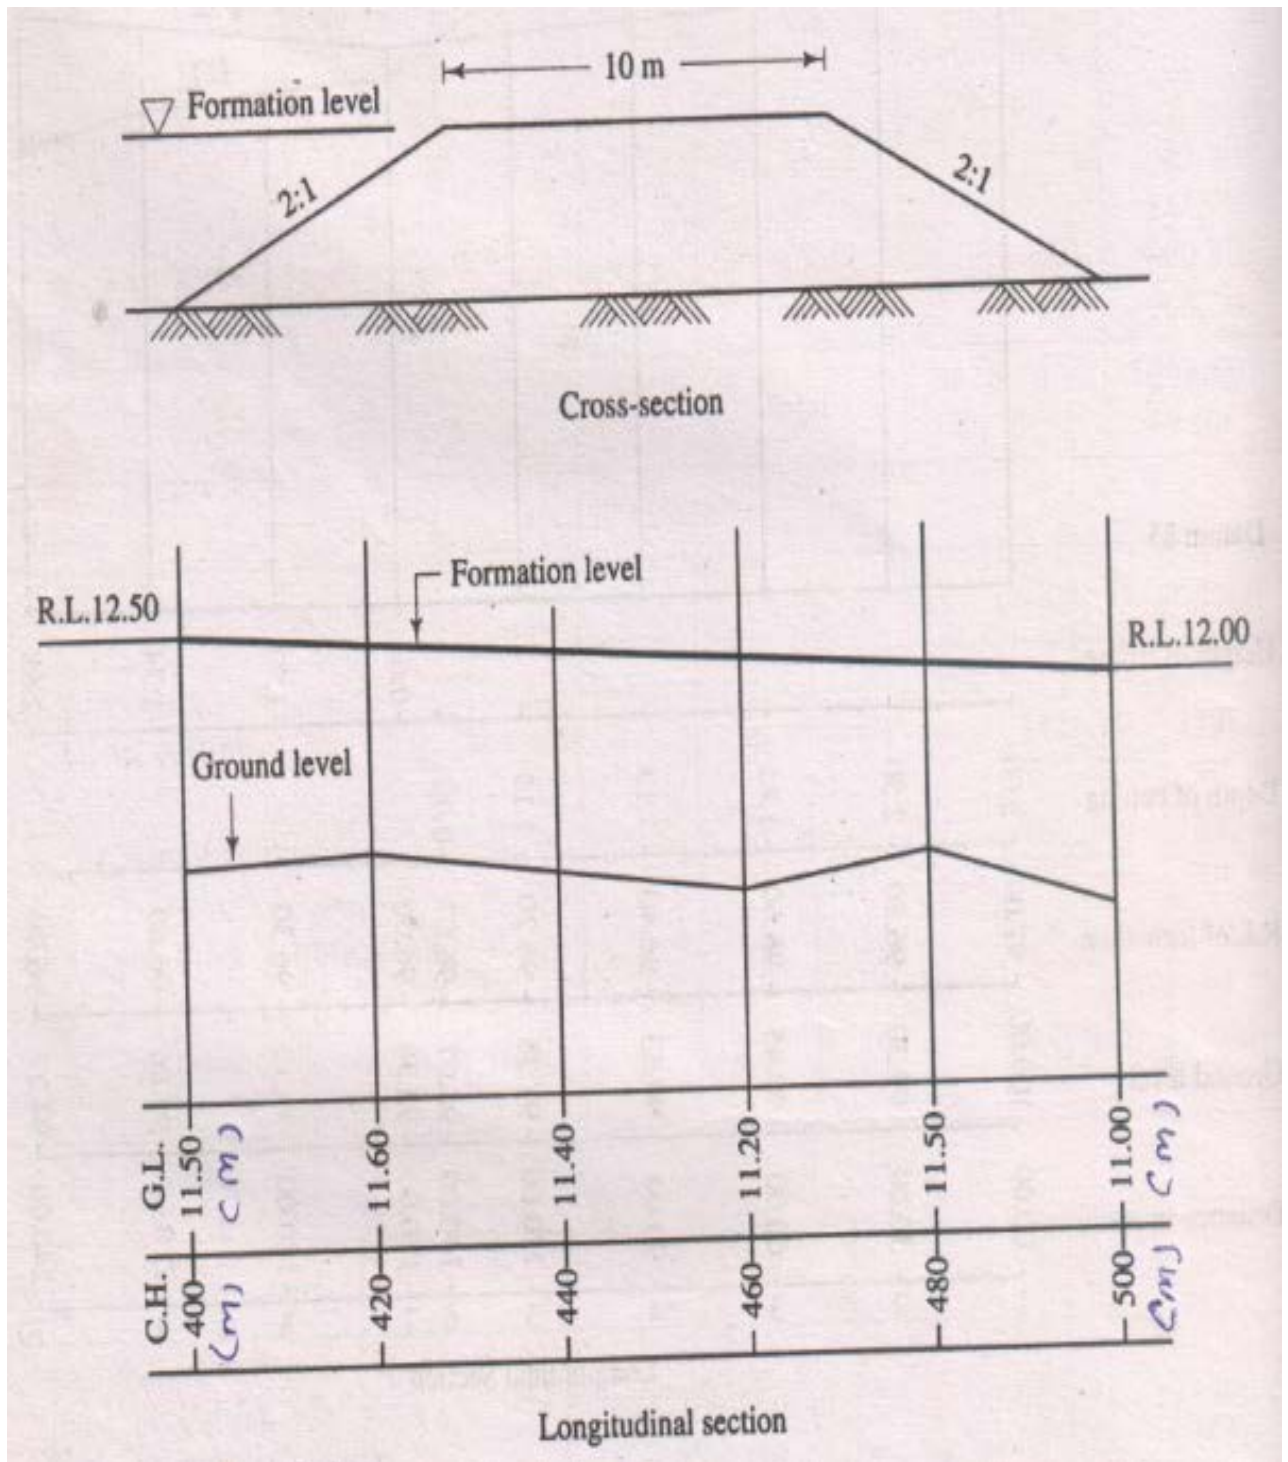

Figure 3
- (c) Calculate the volume of earthwork for a proposed road having formation width 10m and side slope 2:1 using mid-sectional area method. The cross-section and longitudinal section of a road is shown in figure 3 07